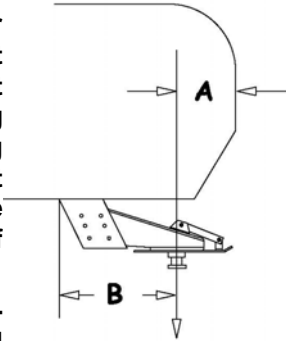

Figure 1
4. The trailer king-pin must be kept even with /or forward of the foremost point of the trailer. See "Caution" and "figure 1" on pg. 5.
5. Trucks with bed liners may need a tall Mounting Post. See "NOTE" under item 4 of "Drilling the Bed" on pg. 6 for detail.
7. Read these instructions completely and follow them accurately. Should you have any questions, please call the factory at (800) 443-2307 for installation assistance.
1. As a general rule, for the SuperGlide hitch to maintain proper clearance to the truck, the leading edge of the trailer (measured at the corner) should be even with the center of the king pin. Most truck trailer combinations will allow 102" wide trailers if the king pin is located as described. Narrower trailers will allow the king pin to be "tucked" under the trailer over hang to some extent (Figure 1). Call PullRite technical support with trailer width, make and year of truck and distance the king pin is from leading edge of the trailer (Dimension "A"). 1-800-443-2307
2. Using a trailer that has a long rear slope to the King Pin Box Hangar, "B" in (Figure 1), may cause damage to the trailer or truck bed during turns. Dimension "B" must be less than one half the width of the inside top edges of the bed. Please call PullRite technical support, 1-800-443-2307, if more information concerning this problem is needed.
1. Place the driver side Mounting Bracket onto the truck frame, using the holes where the overload spring bracket (B) would mount (See **Ford 1**), as your guide for placement of the Mounting Bracket. Be sure to place the Mounting Bracket behind the emergency cable if the truck is a 2004 or older model.
2. Temporarily attach the Mounting Bracket to the frame, using one of the bolts that were removed from the overload spring bracket that was earlier removed, or using one of the 1/2" x 2" bolts provided, place one bolt into hole F (Figure 1 above). Place the 3/4" x 2 1/2" bolt into hole C (Figure 1 above) (Some Mounting Brackets may have a slight warp to them due to the metal characteristics during the welding process. If the bracket has a warp, you will need to draw the bracket tight against the frame using either the bolts or by adding a clamp to assist in drawing the bracket tight against the frame.) Tighten sufficiently to hold the Mounting bracket tight against the frame.
1. Attach the brake cable to the Mounting bracket using the 3/8" x 2" bolt through hole **E** on the driver side. (See **Figure 1**).
2. Install bolts **D** (**Figure 1**), or use the bolts that were removed with the overload spring bracket into the **D** indicated holes, and tighten. (It may be necessary to drill these holes out to 1/2" to accept the 1/2" bolts)
3. Tighten the 3/4" bolt **C** shown in **figure 1**.